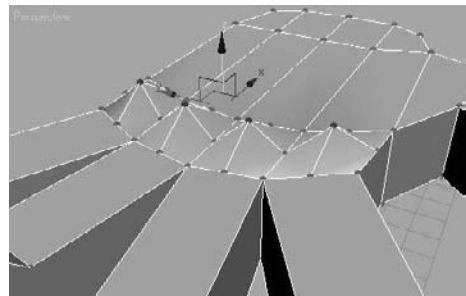

Figure 4.92
3. Switch to Vertex mode and select the vertices in the center of the subdivided polygons. Right-click to access the shortcut menu and choose **Move**. Move the vertices up away from the hand along the Z-axis, as shown in Figure 4.92. Check the Use NURMS Subdivision box to see the smoothing of the hand with the raised knuckles (as shown in Figure 4.93). You may want to go back to Vertex mode while in NURMS to use the SubDs cage to refine the changes. Continue to edit until you are satisfied with the look. Don't forget to save another iteration.